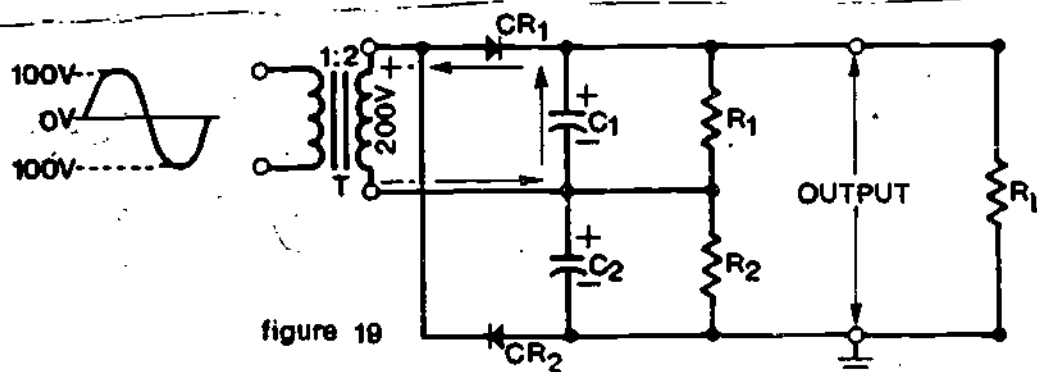

figure 19
22. You have probably already concluded that when the transformer secondary is polarized as shown in Figure 19, CR1 and CR2 have opposite polarities. In other words CR1 is now forward biased or closed, and CR2 is reverse biased or open. A series circuit is now created consisting of the secondary of transformer T1, C1 and CR1.
C1 now charges to its maximum potential of 200 volts as shown on the schematic. Study Figure 19 to make sure you understand the current flow associated with charging the capacitor.